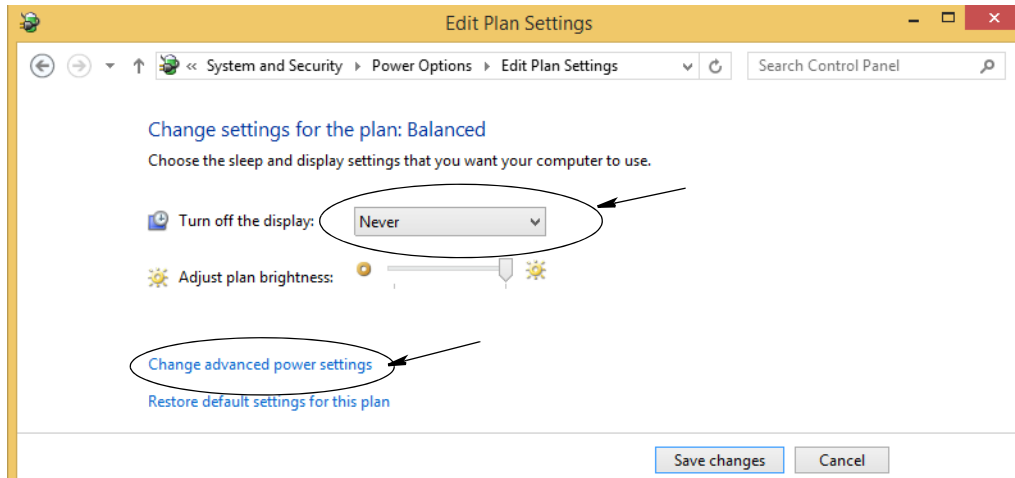

FIG. 56
3. Select the Edit Plan Settings Option. On the Edit Plan Settings screen (FIG. 56).